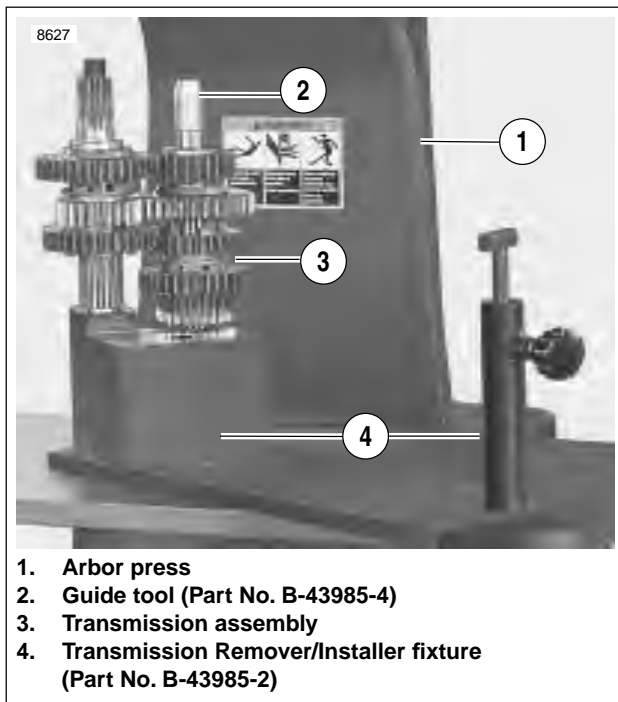

Figure 6-79. Transmission Assembly in Fixture
1. See Figure 6-79. Place transmission assembly onto TRANSMISSION REMOVER/INSTALLER FIXTURE (Part No. B-43985-2) on arbor press.